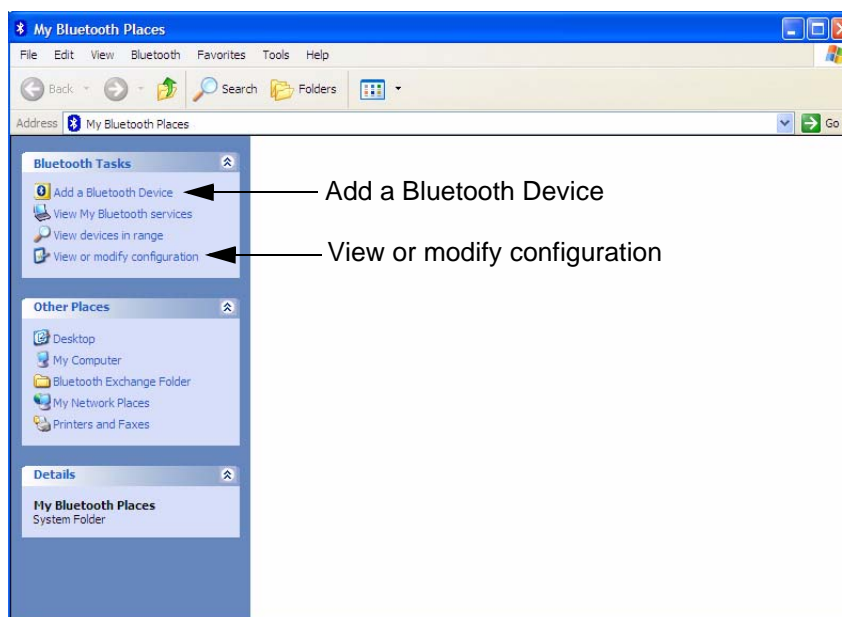

Figure 3-30 My Bluetooth Places "View or modify configuration"
8.) In the displayed window, double-click "Add a Bluetooth Device" (see Figure 3-30 on page 3-37).